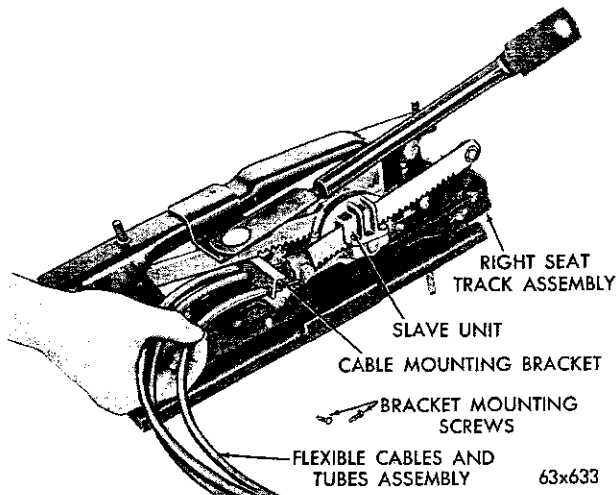
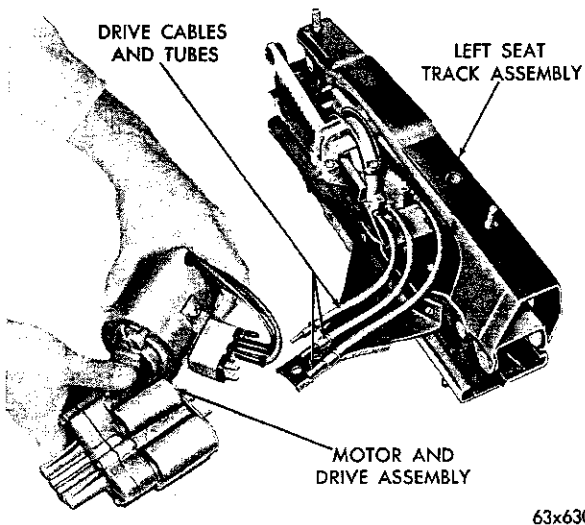

Fig. 128—Removing Cables from Right Slave Unit
Fig. 129—Removing Drive Assembly from Left Slave Unit (Typical)
- (5) Remove the bracket screws at the right slave unit remove the tubes and flexible cables assembly (Fig. 128).
- (6) Remove the bolts that hold the motor and drive assembly to the left guide bracket.
- (7) Remove the drive assembly with tubes from the left slave unit (Fig. 129).
- (8) Remove the flexible cables from the tubes.